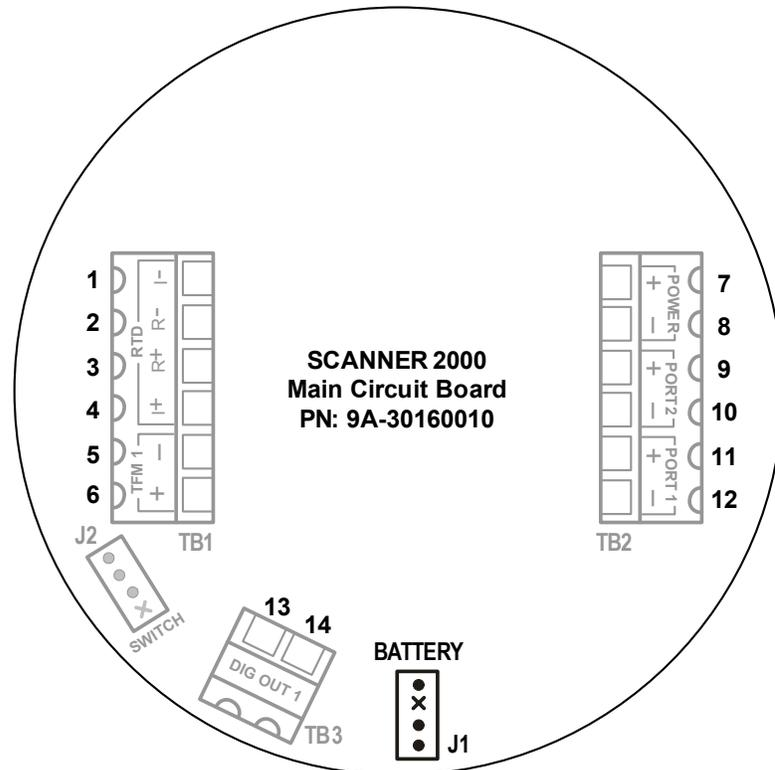

Figure 3.2 - Lithium battery pack connection
4. Connect the lithium battery to the J1 connector on the circuit assembly. See Figure 3.2, page 61.
The Scanner 2000 flow computer is shipped with a lithium battery pack. To supply power to the instrument, connect the battery cable to connector J1 on the main circuit assembly (Figure 3.2).